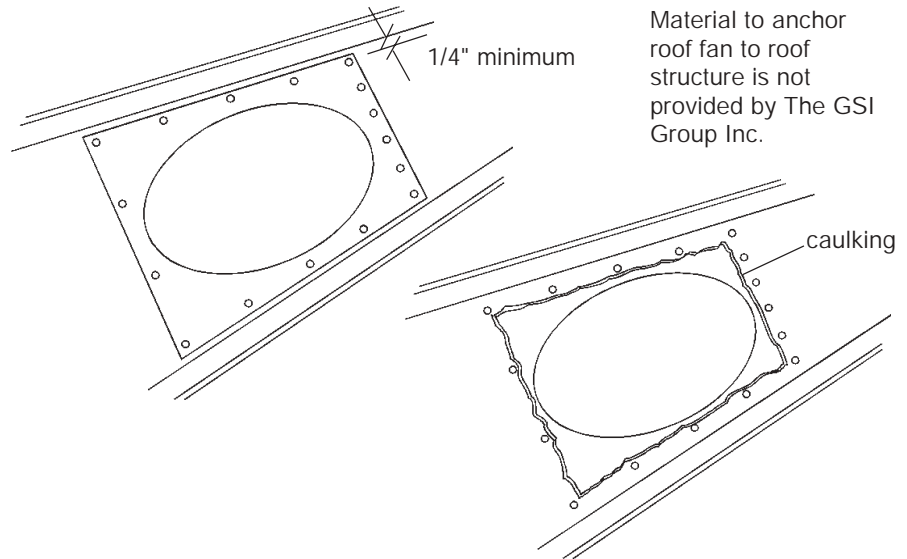

Figure 3: The 18" template location on the roof sheet (left), and the caulking location on the roof sheet (right).
1. Using the loose flange from the fan assembly as a template, position the desired roof fan location, allowing for 1" minimum between the roof sheet rib and the flange. See figure 3. Mark the sixteen(16), 3/8" mounting holes, and elliptical fan mounting hole.
2. Drill the sixteen(16), 3/8" holes and cut out the elliptical hole. Use the caulk provided, which is specified as a seal for metal sheets in an outdoor application, and apply along the in side edge of the drilled holes on the bin roof sheet. See figure 3.